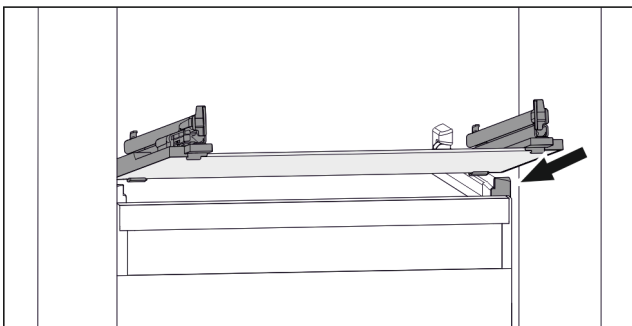

Fig. 122 Example illustration of glass shelf
- Position glass shelf at an angle behind the stoppers. (see Fig. 122)